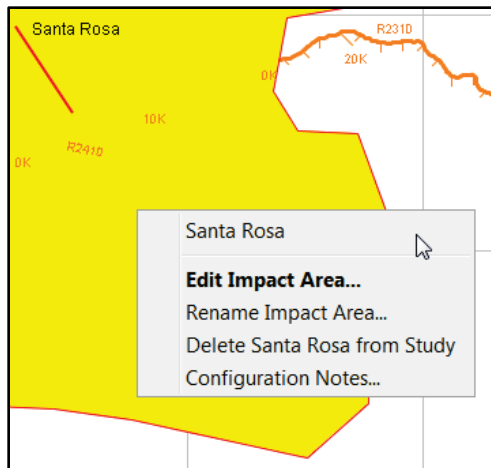

Figure I.6 Impact Area Shortcut Menu
After drawing an impact area on the schematic, the user can edit properties, rename, delete, and create schematic notes for individual impact areas. All of these tasks are accomplished through the impact area shortcut menu (Figure I.6). To access the impact area shortcut menu, from a schematic, and with the **Impact Area Tool** (on the map toolbar, press the **Impact Area Tool**  selected, right-click on an impact area.
1. Right-click an impact area and click **Edit Impact Area** from the available shortcut menu (Figure I.6). The **Impact Area Properties Editor** will open (Figure I.7). From the **Description** box (Figure I.7) the user can edit or add a description.
1. Right-click an impact area and click **Rename Impact Area** from the impact area shortcut menu (Figure I.6).
1. Right-click an impact area and click **Delete *ImpactAreaName* from Study** from the impact area shortcut menu (Figure I.6).
1. Right-click an impact area and click **Configuration Notes** from the impact area shortcut menu (Figure I.6).